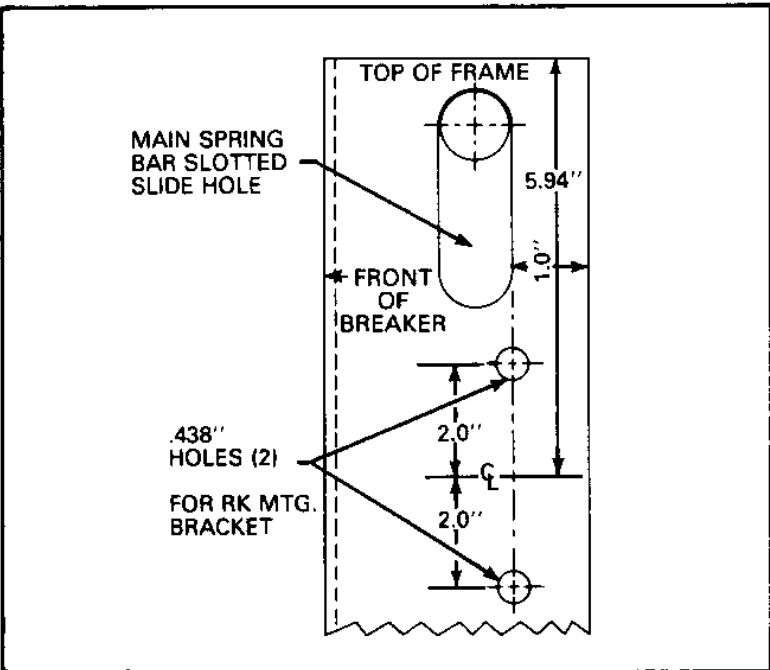

Fig. 4 Middle Frame Right Side View
*Note: Kits contain more hardware than required due to multi-purpose use, check right side and left side views Figs. 4 to 9 for number and size of hardware.
- 1. Viewing the breaker from the right side locate the main spring slotted slide hole which is 1" x 3" and located on the side of the front middle frame. Using the inner edge of the hole as a guide scribe a line 5.94 inches from the top of the frame (See Fig. 4) to locate a centerline.
- 2. From this centerline locate a point 2.0 inches above and 2.0 inches below, drill two .438 holes, Fig. 4.